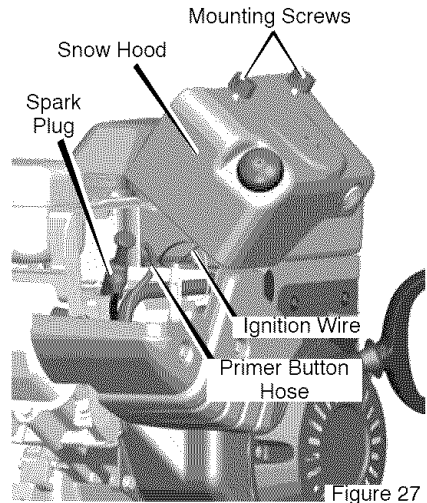

Figure 27
3. Remove the **mounting screws** (see Figure 27).
7. Mount the snow hood to the engine and secure with the mounting screws (see Figure 27).